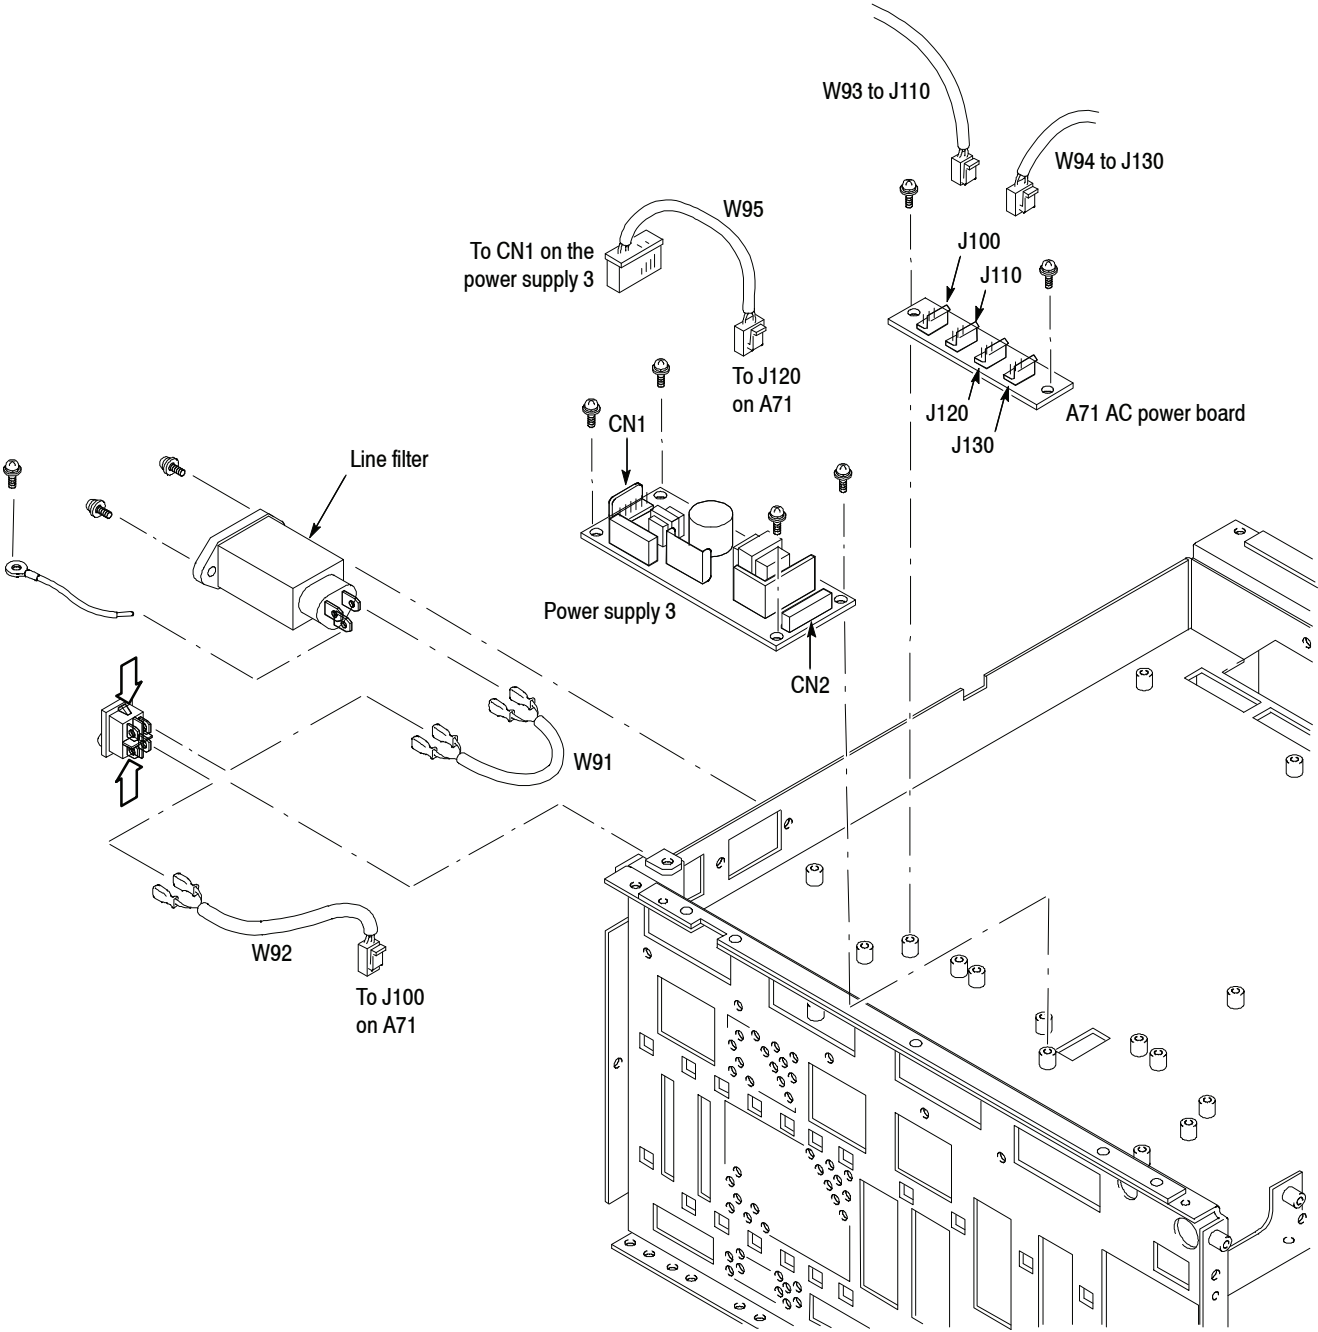

Figure 5-25: Power supply modules removal
See Figure 5-25 for the following steps 3 and 4. Also see Figure 5-38 on page 5-76 for cable interconnection.
3. *Remove the A71 AC power board:* See Figure 5-25. Also see Figure 5-38 on page 5-76 for cable interconnection.
3. *Remove the power supply 3:* See Figure 5-25. Also see Figure 5-38 page 5-76 for cable interconnection.
3. *Remove the line filter:* See Figure 5-25.
3. *Remove the principal power switch:* See Figure 5-25.